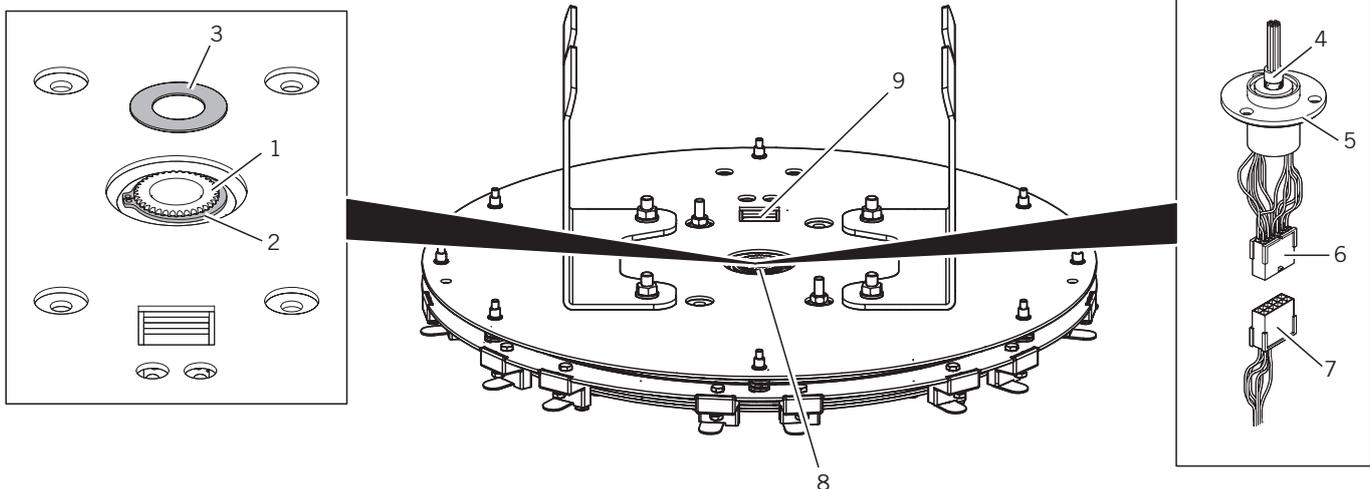
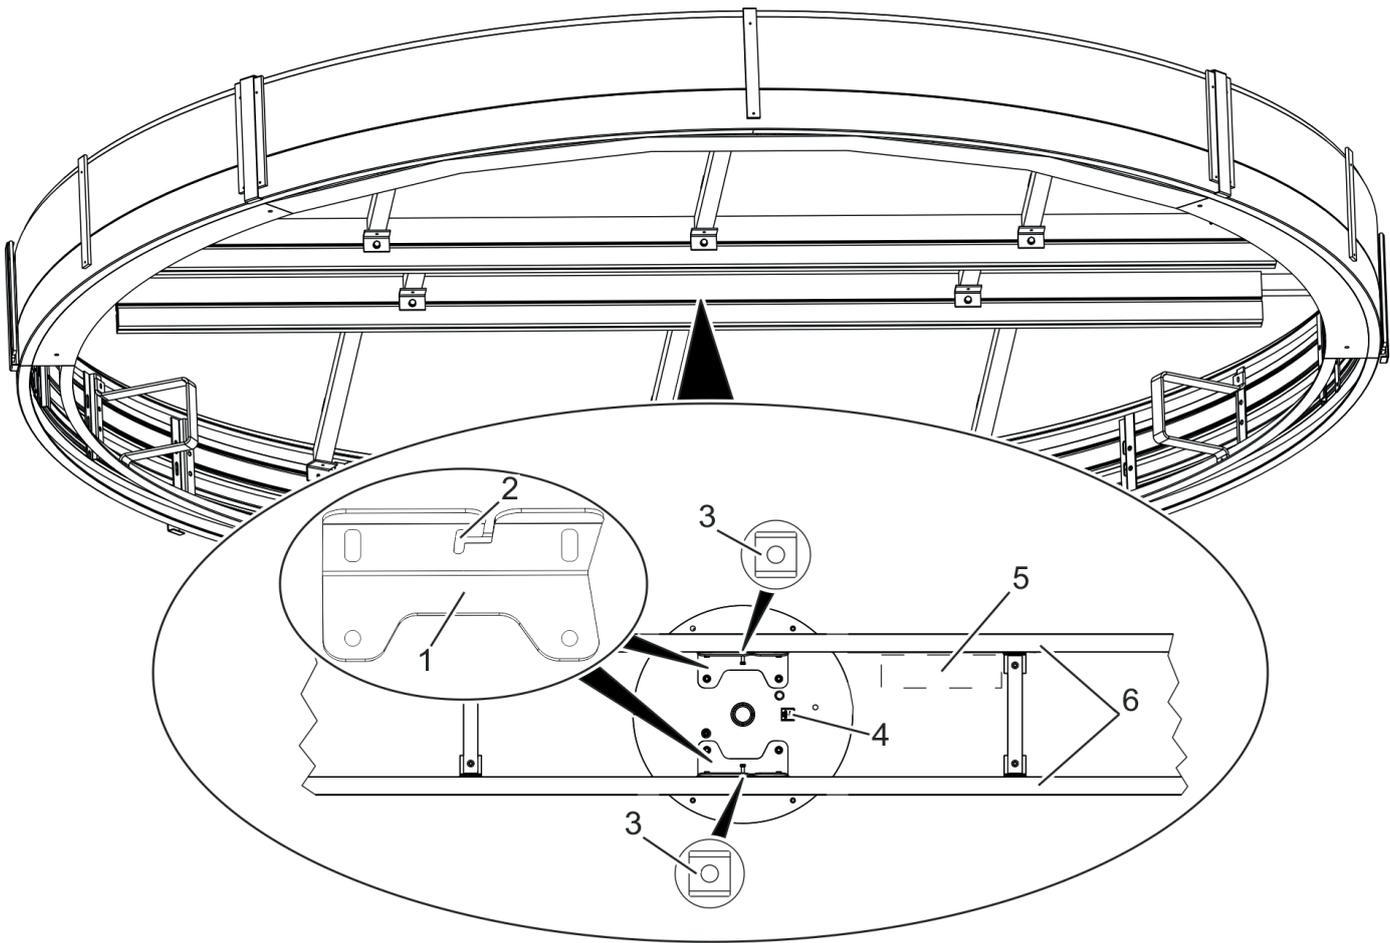

Fig. 66 Operator (top view)
Fig. 70 Insert the operator
1. Mount the adapter plate (Fig. 66/1) and angle bracket (Fig. 66/2) on the top side of the operator (Fig. 66/3) as shown in Fig. 66 (screw pack 34053201150).. Observe the screw tightening torques.
2. Mount the safety ring on the top of the toothed shaft (Fig. 66/2).
3. Grease the lower tothing of the toothed shaft (Fig. 70/1) and insert into the operator center (Fig. 66/8).
4. Clean the top side of the inserted toothed shaft (Fig. 66 /1) with a cloth and degreaser.
5. Remove the foil from the adhesive side of the Velcro ring (Fig. 66/3) and fasten to toothed shaft.
5. Align one slide nut (Fig. 70/3) in each of the center beams (Fig. 70/6) as close to the center as possible and screw one screw into the sliding nuts (screw pack 34053401150).
Lift the operator with 2 persons, guide it centered between the center beam (Fig. 70/6) and hook it on the screws by means of the grooves (Fig. 70/2).
angle brackets (Fig. 70/2).
12. If there is a discrepancy, insert shims between angle bracket (Fig. 70/1 + 2) and center beam (Fig. 70/5).
Lift the prepared operator with 2 persons, guide it centered between the center beam (Fig. 70) and deposit it on the angle brackets. Fasten with the screws (screw bag 9501900275700).
Make sure that the control connection (Fig. 70/4) points in the direction of the future controller (Fig. 70/5).